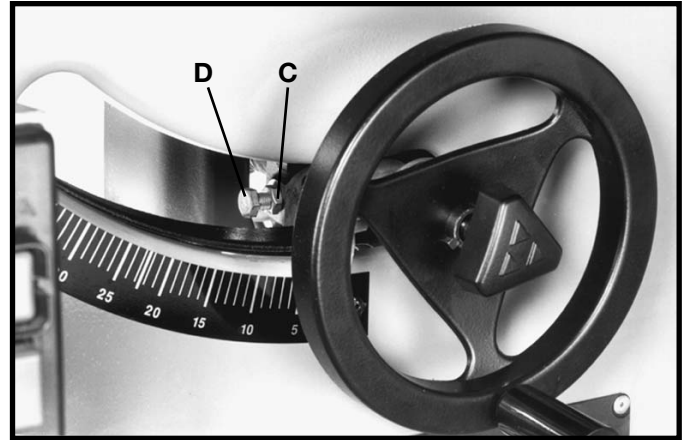

Fig. 118
4. Turn the blade tilting handwheel counterclockwise as far as it will go. Using a square, check to see if the blade is at 45 degrees to the table. If an adjustment is necessary, turn the blade tilting handwheel clockwise until the adjusting screw (D) Fig. 118, and locknut (C) are in view, in the opening in the front of the saw cabinet, as shown. Loosen locknut (C) and tighten or loosen adjusting screw (D) until head of screw (D) contacts casting on front trunnion when the blade is at 45 degrees to the table. Then tighten locknut (C).